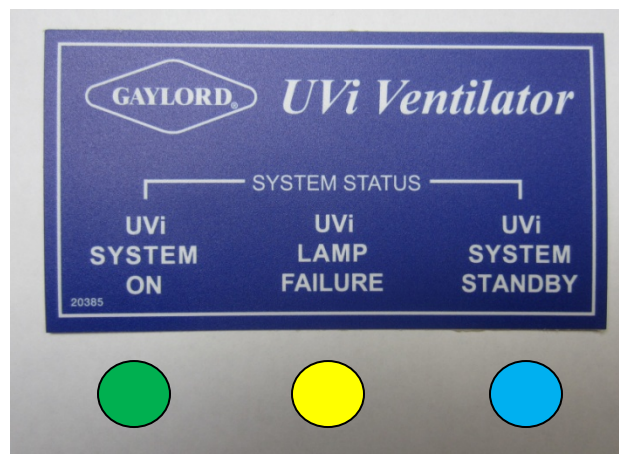

Figure 3-4-1
4. Once the exhaust fan reaches operating speed, the UV lamps will come on and the green UV Status Light on each Ventilator section will come on (Refer to Figure 3-4-1). The Ventilator is now in the operational exhaust mode. **Important Note:** Refer to your Command Center Technical Manual for specific text displayed when the Ventilator is in the operational exhaust mode.
Each Ventilator section contains a bank of UV Status Lights to monitor the UV System (Refer to Figure 3-4-1). There are three colored lights, Green, Yellow and Blue. They indicate the system status as follows: